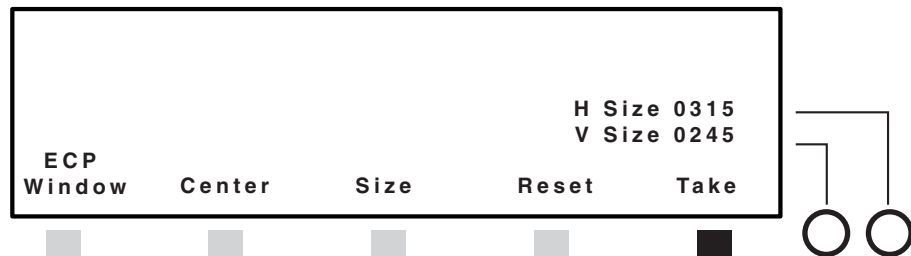
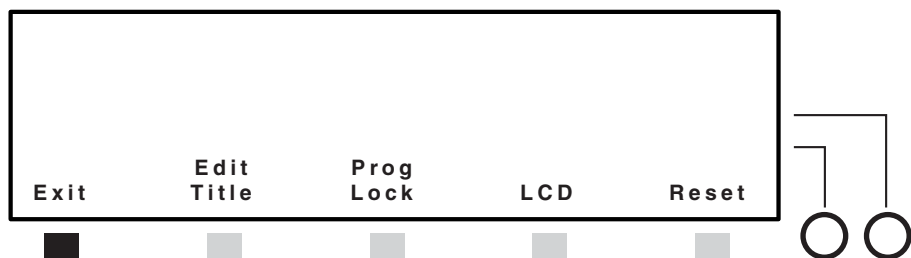

Figure 3-19 — Returning to the previous submenu
Figure 3-20 — Returning to the default menu
9. To return to the default screen, press the Take button (figure 3-19), then press the Exit button (figure 3-20), or wait 16 seconds until the submenu times out.